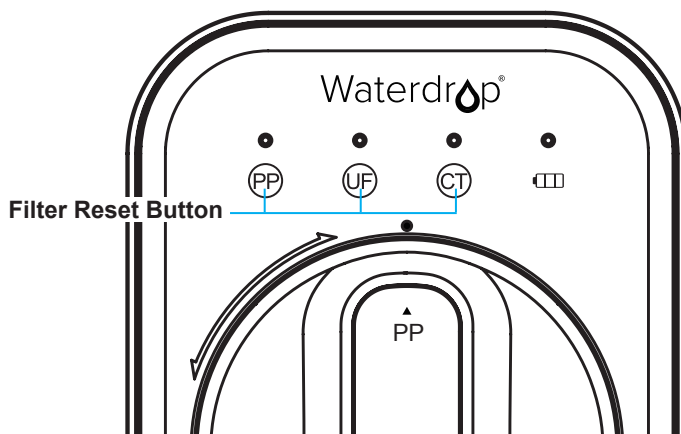

Figure 7
2. Touch one of the filter reset buttons slightly to start up all indicators and check the display status. The filter life indicator will be off after 10 seconds (Figure 7).